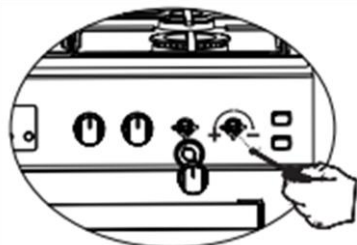

Figure 6
5. For the last control, bring the burner both to high-flame and reduced positions and check whether the flame is on or off. Depending on the type of gas tap used in your appliance the adjustment screw position may vary. To adjust your oven acc. to the gas type, make the adjustment for reduced flame carefully by turning with a small screwdriver as shown below on the screw in the middle of the gas cocks as well as nozzle changes. (Figure 6 and 7)